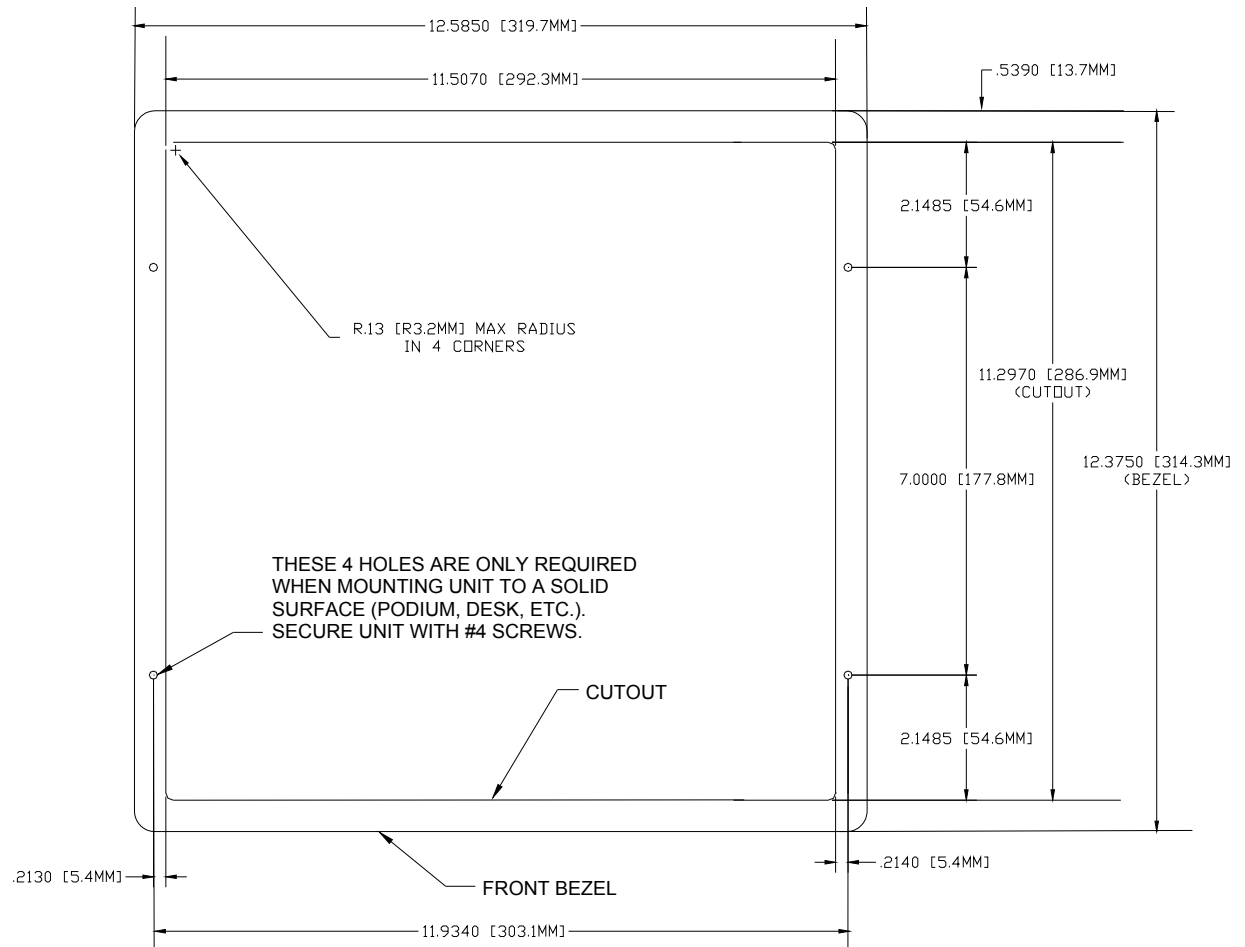
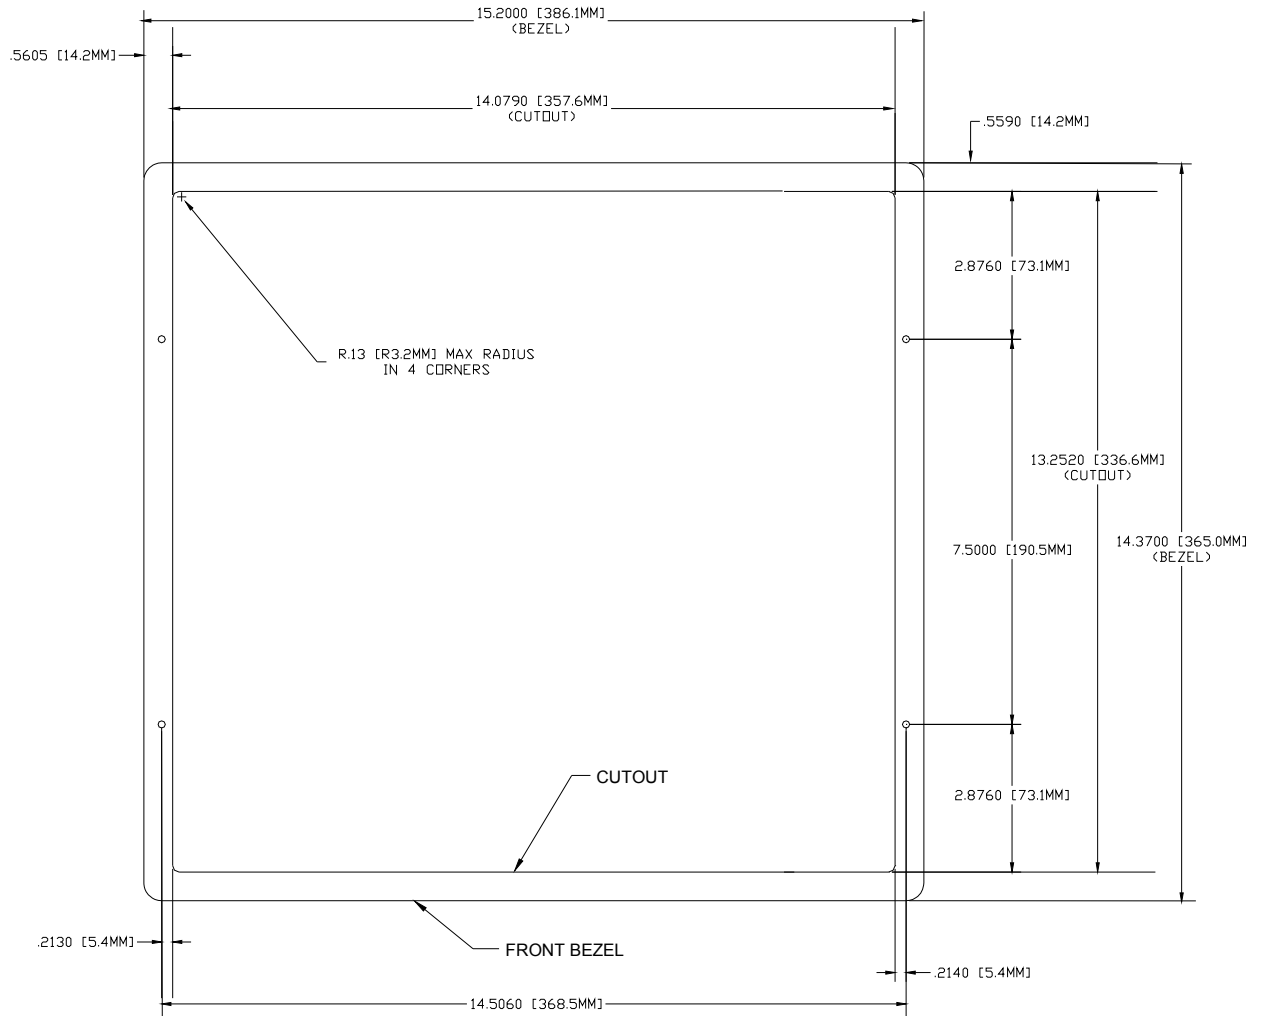

FIG. 43 NXD 12-inch Wall Mount panel dimensions using #4 mounting screws
FIG. 44 NXD 15-inch Wall Mount panel dimensions using #4 mounting screws
- Cut out the surface for the *12-inch Wall Mount* using the dimensions shown in FIG. 43 and for the *15-inch Wall Mount* using the dimensions shown in FIG. 44.